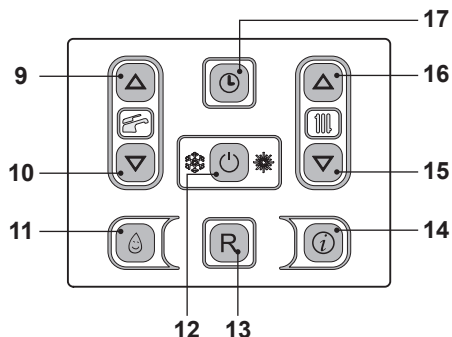
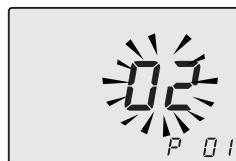

Fig. 9.1
Fig. 9.2
- Enter "programming mode" by holding down keys 12 - 15 - 16 together for 10 seconds (Fig. 9.1) until the LCD display indicates the letters **P01**, indicating entry in "parameter 01" (Fig. 9.2).
- By pressing key 12 (Fig. 9.1) confirmation of the inserted value is obtained.